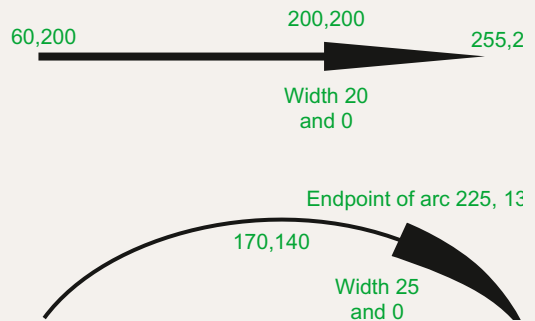

Fig. 2.36 Exercise 9
- With the Polyline tool construct the arrows shown in Fig. 2.36.